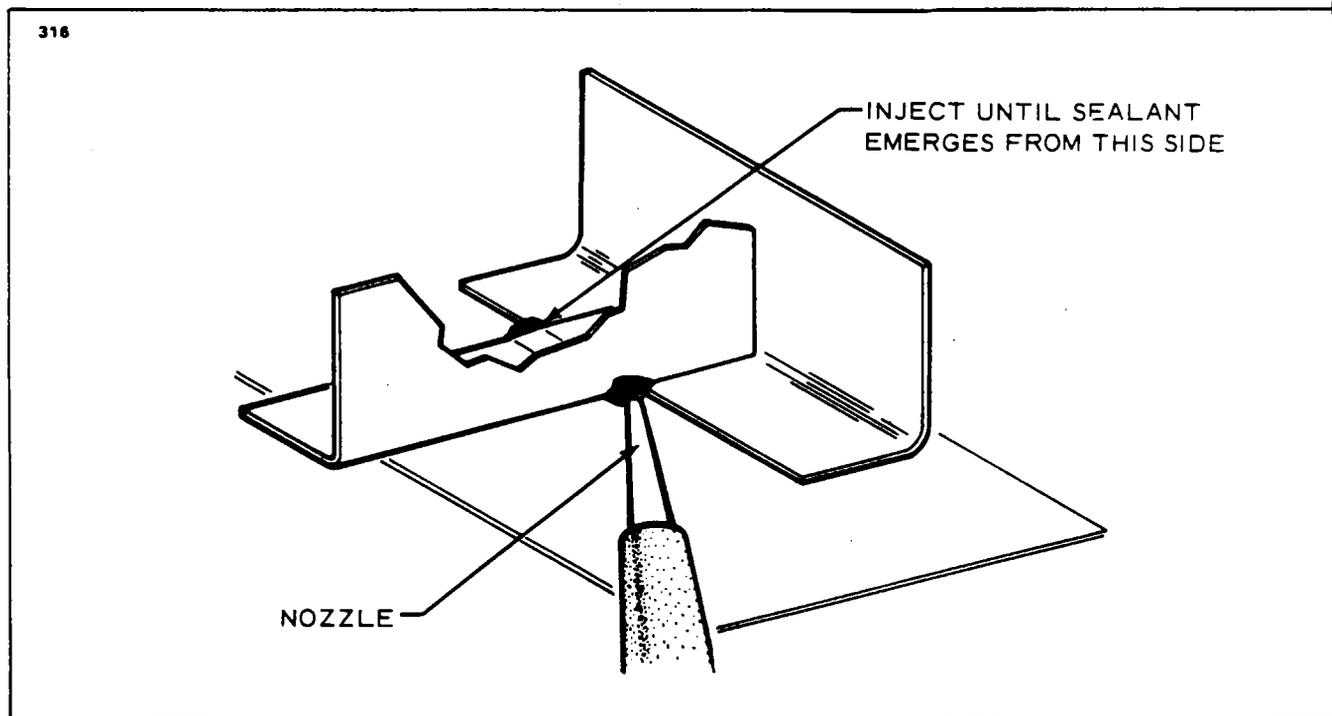

Figure 51-14. Joggle Seal
*Sufficient sealant should be applied to insure a continuous extrusion on both sides of the joint after assembly of the faying surface. (Refer to Figure 51-14.) Permanent fastening is required before the work life of the sealant has expired. A sand blasted bucking bar should be used to perform the riveting operation.*
**SEALING JOGGLES. (Refer to Figure 51-14.)**